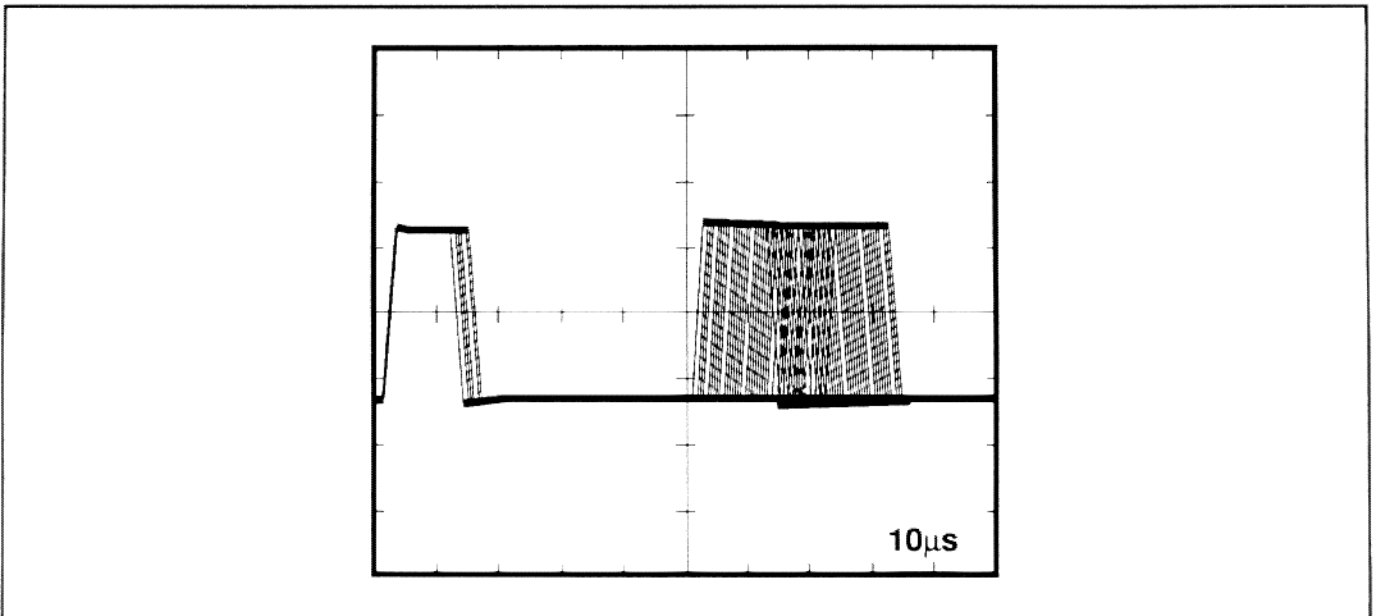

Figure 4-12. A Time-Modulated Signal. The conventional oscilloscope display lends no clue as to what the signal is doing.
4. To observe the b.out 7 signal, connect the **B MONITOR** output to the channel 2 input of the oscilloscope and display the waveform. Set the oscilloscope time base to 10 μ s per division. The resulting waveform should look like the one in Figure 4-12. Notice how the falling edge of the pulse is blurred. It is difficult to analyze the pulse sequence. The next steps will help show what the